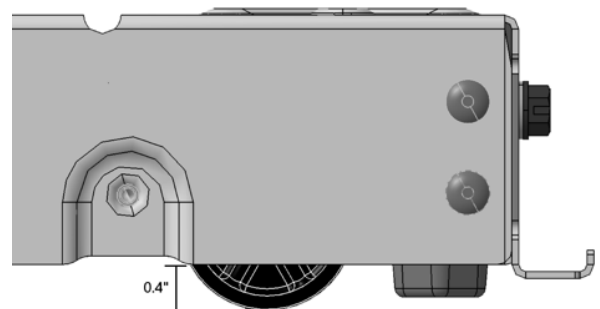

Figure 7
- d. Attach remaining 3 Leveler Assemblies as described in the previous 3 steps. With the unit(s) still on their backs, adjust all leveling wheels to approximately the orientation in Figure 7: